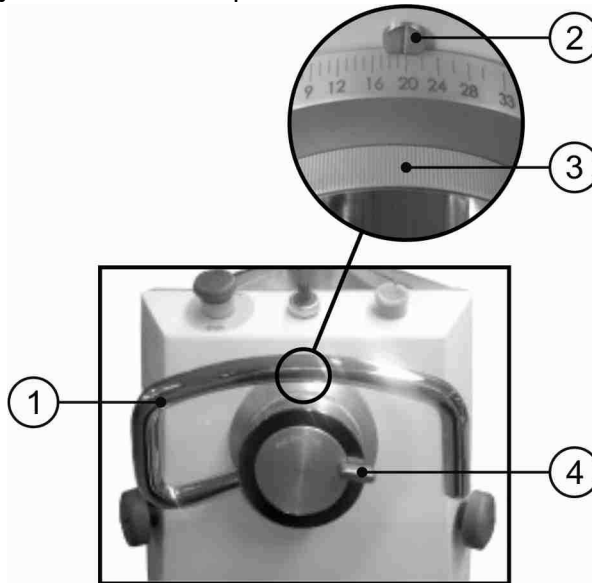

Figure 9
Use the adjustment handle/handwheel ref. 1 Figure 9 to change the opening of the laminating cylinders and consequently the thickness of the dough being processed in order to obtain the finished product. The machine is fitted with a system that allows setting the final required thickness so as to obtain perfect process repeatability.